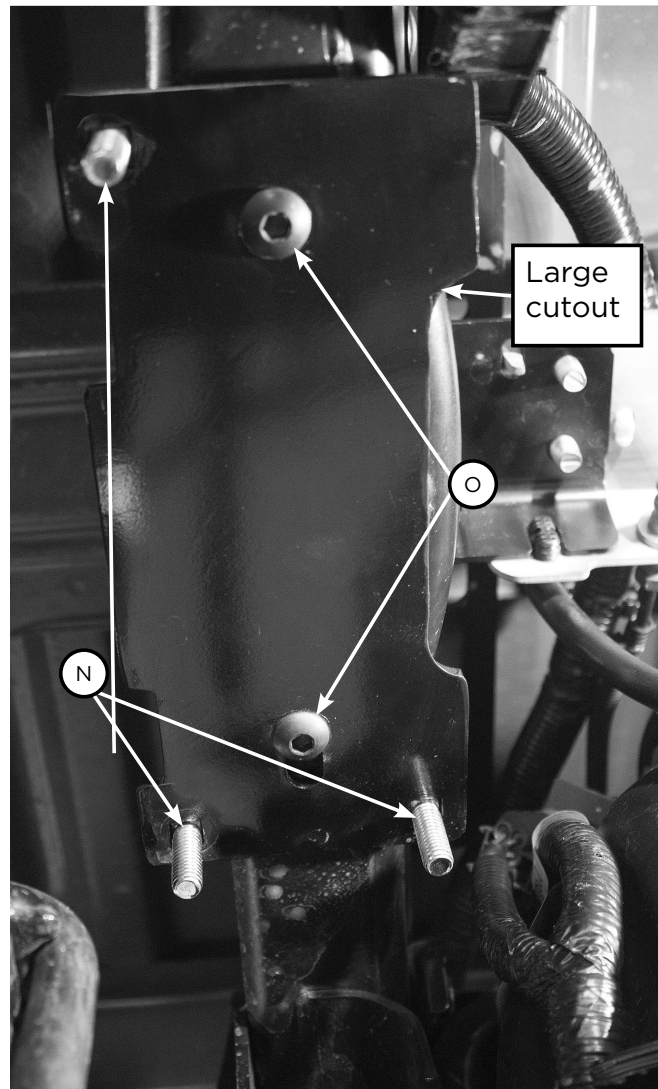

Fig. 5
4. Insert the 3/8"-16 x 1 1/4" carriage bolts (N) into the upper chassis bracket (D). Install the upper chassis bracket onto the frame using the M10-1.5 x 35mm button-head cap screws (O) so that the large cut-out on the side of the bracket is inboard of the frame rail and the slotted hole in the center is forward (Fig. 5). Torque hardware to 38 lb.-ft. (52Nm).